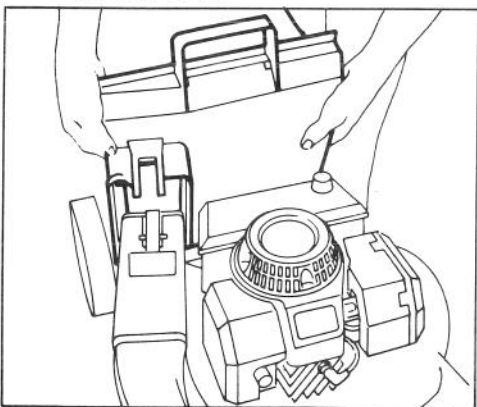

Figure 9
3. INSTALLING BAG (Fig. 9) — Hold front of bag frame and bag door together. Then place opening in bag door against flanges on rear chute and slide bag door down.